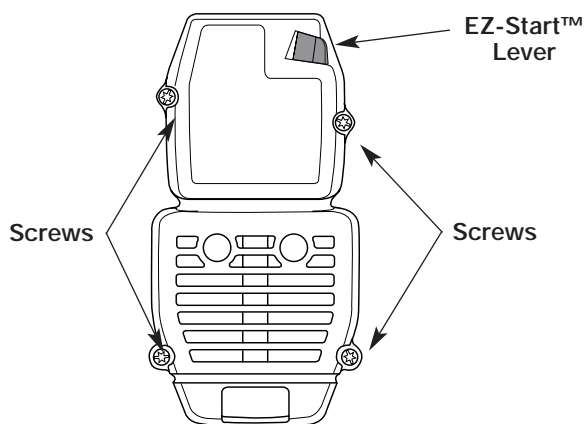

Fig. 36
1. Remove the four (4) screws securing the air filter/muffler cover (Fig. 36). Use a flat blade or T20 Torx bit screwdriver.
2. Insert the four (4) screws into the holes in the air filter/muffler cover (Fig. 36) and tighten.